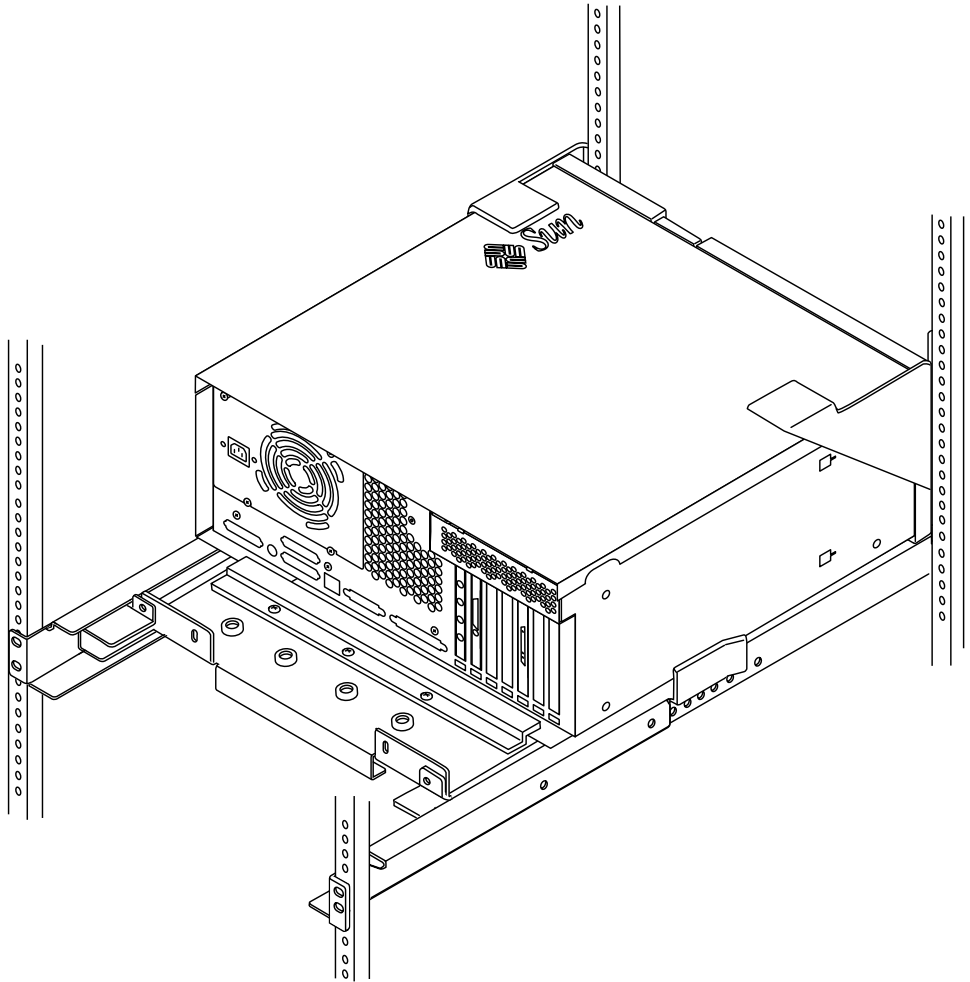

FIGURE 16 Ultra 30/60 System Installed and Ready for Cabling
11. Connect power and other cables as needed (FIGURE 16).